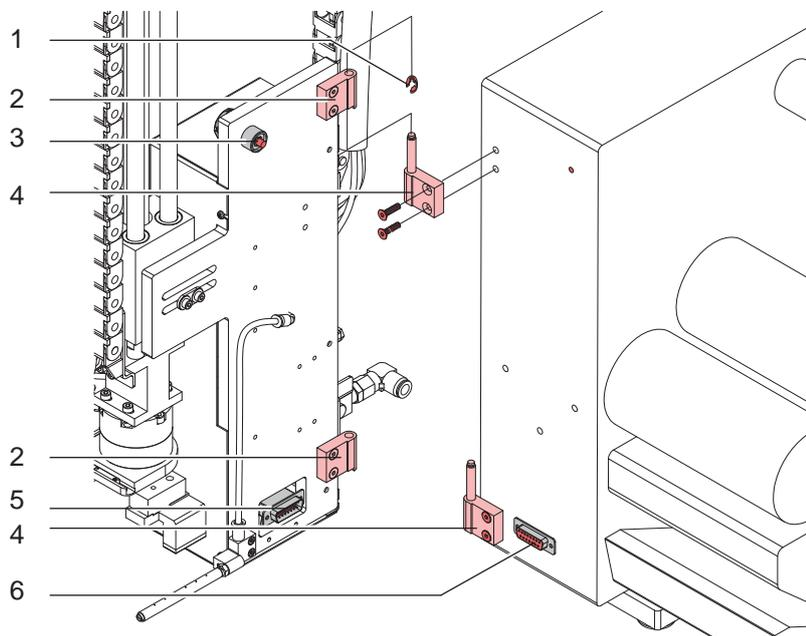

Figure 4 Mounting and connecting
1. Axle part of hinges (4) mount like Figure 4 .
2. Applicator hang with the female part (2) of hinges at the printer mounted hinges parts (4).
3. Lock hinges by snap ring (1).
4. Connect SUB-D15 male connector (5) to the female connector (6) of the printer.
5. Swing the applicator to the printer and tighten the thumbscrew (3).